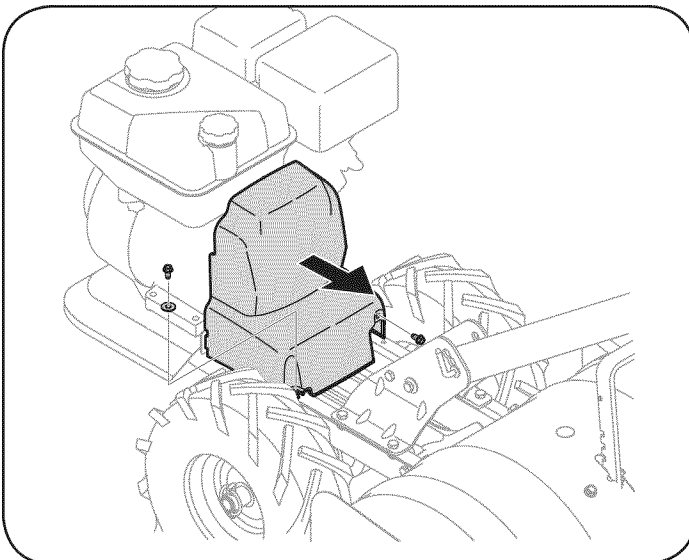

Figure 23
2. Remove the belt cover by first removing the two 1/4-20 self-tapping hex screws. See Figure 23. Lift the belt cover up and away from the tiller and set in a safe location until reinstallation.